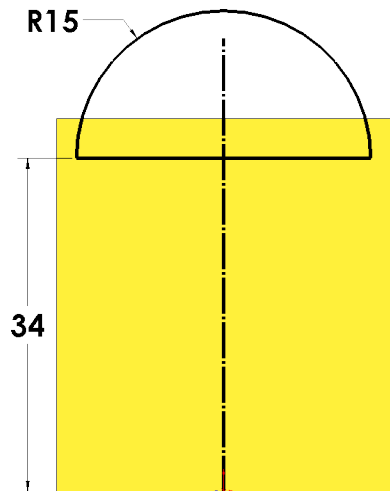

Fig. 30
Step 14. Click **Smart Dimension**  (S) on the Sketch toolbar.
Step 15. Dimension arc radius 15, then add the 34, **Fig. 30**.